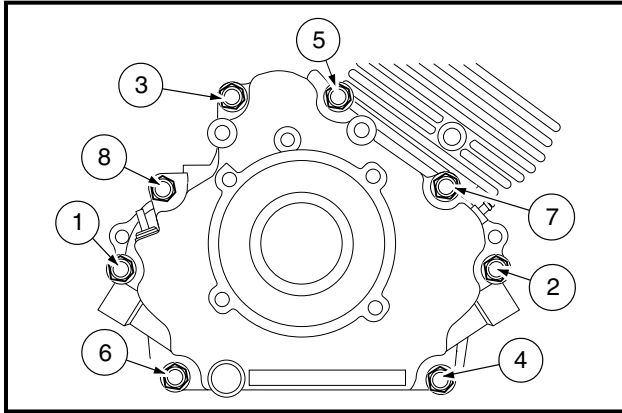

Figure 3-99 Crankcase Cover Installation
3. Install and finger-tighten evenly the eight cover mounting bolts (**Figure 3-99, Page 3-45**).